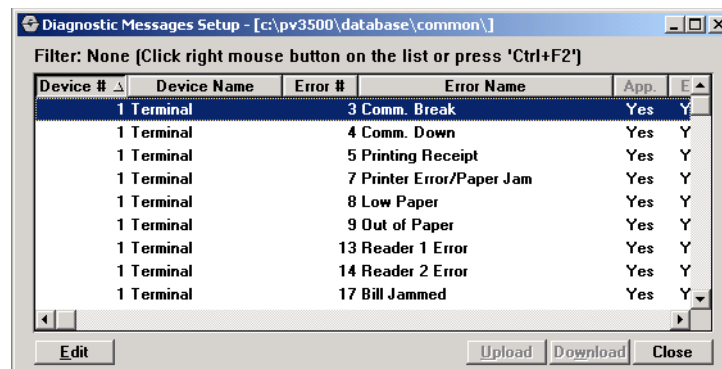

Figure 33: Diagnostic Messages Setup List Form
1. Select **Site> Diagnostic Messages** to open the Diagnostic Messages Setup frame (*Figure 33*).